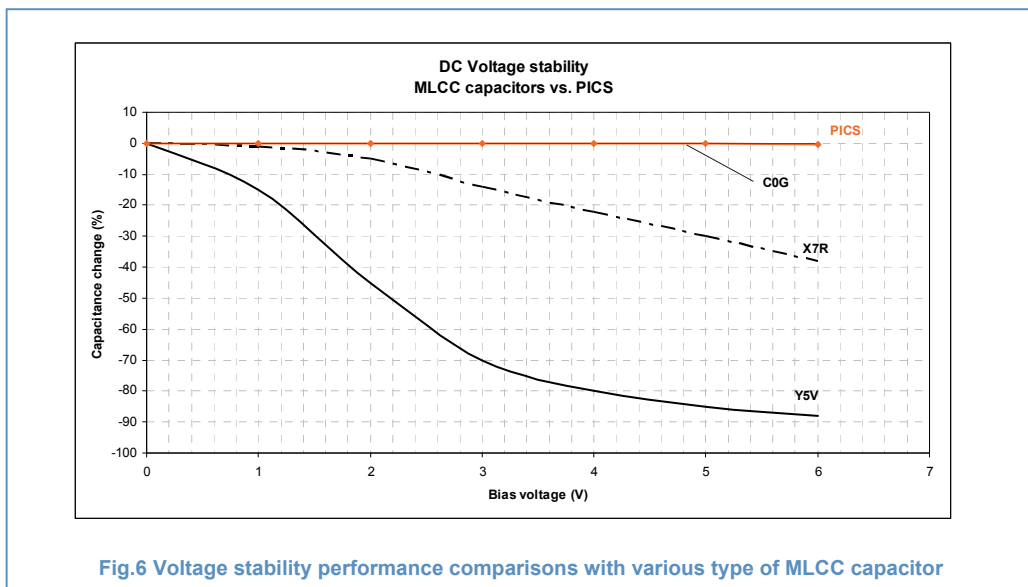

**Fig.5 Capacitance stability vs. applied voltage at different temperatures**
- the capacitor value stability over the voltage applied (see Fig.5 & 6)